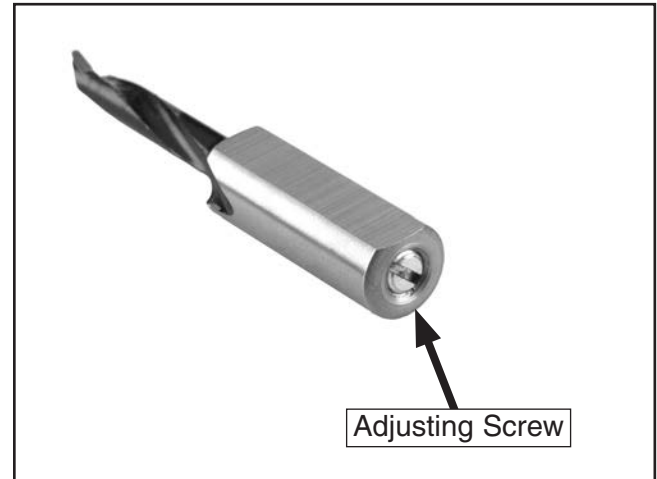

Figure 38. Boring bit height adjusting screw.
4. The height of a boring bit can be adjusted by removing the bit from the chuck, turning the center screw of the bit (see **Figure 38**), then re-installing the bit into the chuck.